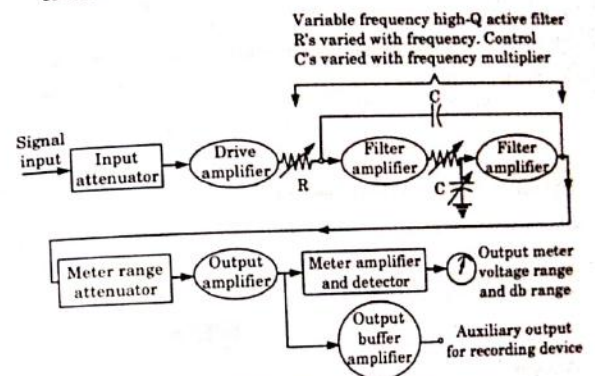

Fig. 4.11.1. Block diagram.
- The block diagram of this wave analyzer is shown in Fig. 4.11.1(a).